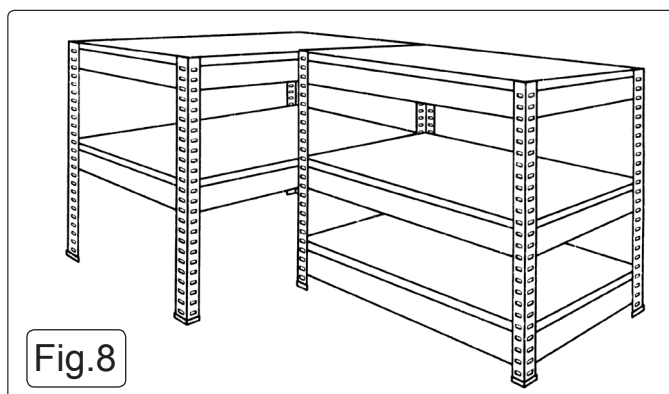

Fig.8
- 4.9 See Fig.8. To assemble as a corner unit make up two separate frames following steps 4.1 to 4.3 but with different shelving positions. Make up one frame with 3 shelves and one frame with two shelves as shown below. Ensure that the middle and top shelves on both frames are at the same height. Fix the frames together with the four nuts and bolts supplied. Place the 5 MDF shelves into position in the frames.